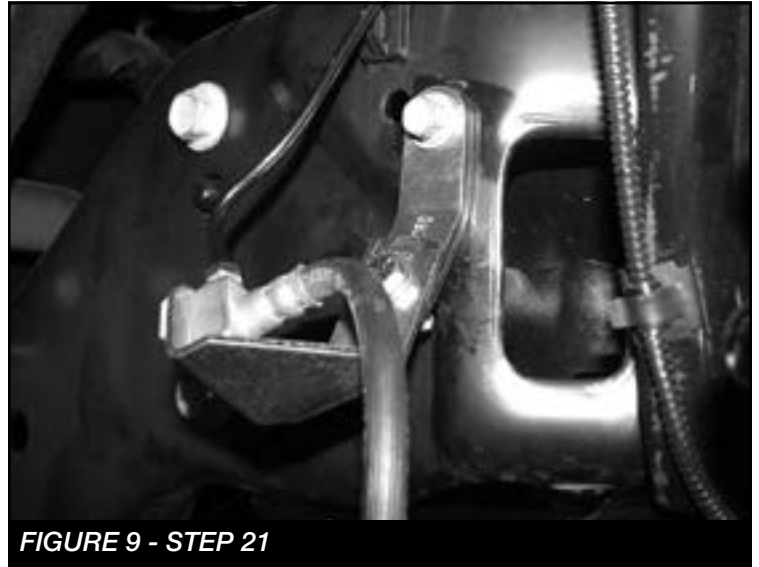

FIGURE 9 - STEP 21
21. Locate the factory brake line mount on the front side of the frame. Remove the bracket from the frame and save the hardware. Locate FT20098 Brake line bracket. Install the new bracket to the factory bracket using 5/16" hardware. Then install the bracket back into the factory hole using the factory hardware. **SEE FIGURE 9**